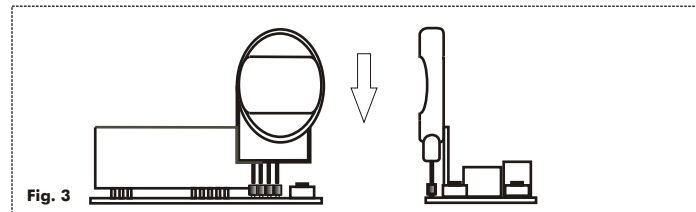

Fig. 3
- 2) Insert the memory into the female connector CT respecting the insertion polarity, as shown in fig. 3
In this case there isn't any block of the receiver buttons and all the setup prepared on the Multiuser Receiver can be transferred onto the receiver IP5 without any restriction and with the possibility to make changes. The data transfer can be effected through the backup memory. Insert it into the CT connector as shown in fig. 3
- 1) slot-in the backup memory into the CT connector respecting the right polarity (see fig.3).
- 1) slot-in the backup memory into the CT connector, respecting the right polarity (fig. 3).